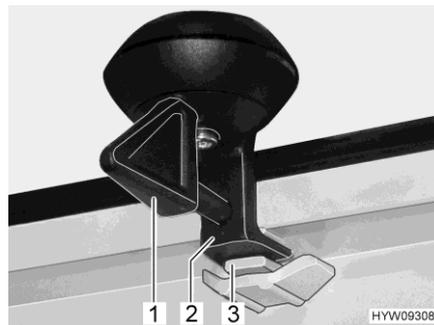

Fig. 72 Lock (ventilation position)
- Turn the lever (Fig. 72,1) one quarter turn. The lock (Fig. 72,2) must slide into the top recess (Fig. 72,3).